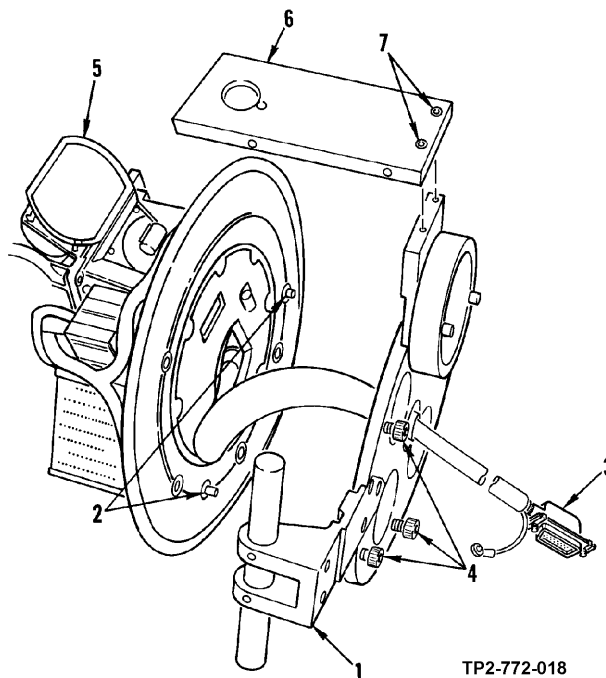

Figure 3-12. Interface Structure Insert Installation on PNVS NSA
- (3) Attach interface structure insert to PNVS NSA as follows:
- (b) Position interface structure insert (1, figure 3-12) to align NSA alignment pins (2) with corresponding hole and slot on interface structure insert.
- (c) Insert NSA cable connector (3) through center hole of interface structure insert.
- (d) Secure interface structure insert to NSA by tightening five captive Allen screws (4).